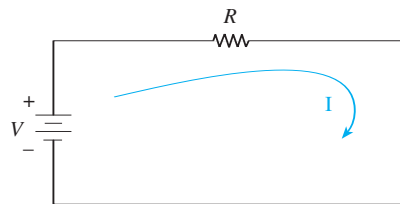

Figure 1 Series circuit used to illustrate Ohm's law.
Definitions for Figure 1
- Determine the current (I) in the circuit of Figure 1 if $V = 10\text{ V}$ and $R = 2\ \Omega$.
- Calculate the voltage required in Figure 1 to make 2 A flow if $R = 10\ \Omega$.
- If $V = 12\text{ V}$ in Figure 1, what resistance is required to limit the current to 2 A ?
Apply the values listed below to the circuit of Figure 1 to determine the unknown quantity.